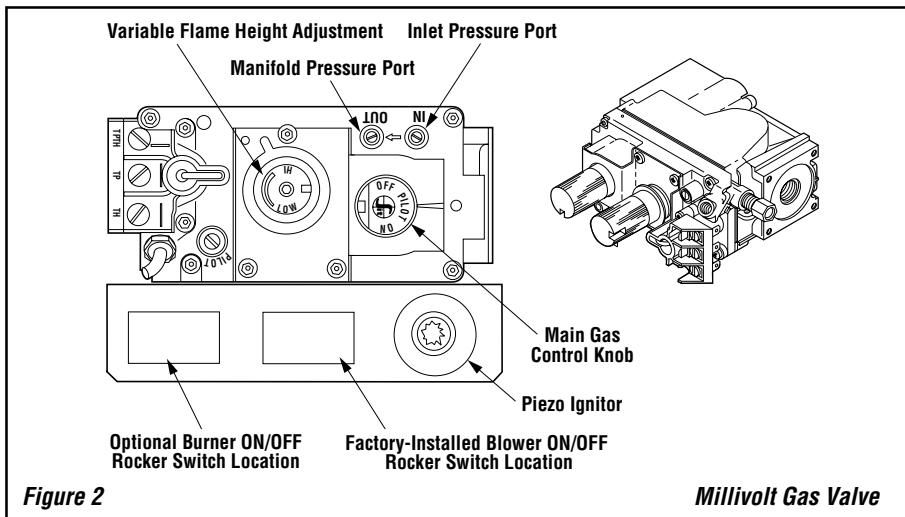

Figure 2
Appliance operation may be controlled by the following means: an optional unit-mounted ON/OFF control switch (Millivolt appliances only), an optional wall-mounted ON/OFF control switch or an optional remote control. The unit-mounted ON/OFF control switch may be mounted in the bracket below the gas valve (see Figure 2 on page 4).
Millivolt appliances are fitted with the gas control valve shown in Figure 2 on page 4.
Operation of millivolt and electronic gas control systems are different. Before lighting and operating your appliance determine if you have a millivolt or electronic appliance. Refer to Figure 1 for access to the gas control valve. Millivolt appliances will be fitted with the gas control valve shown in Figure 2 on page 4.
1. All Millivolt appliances are equipped with a variable gas control valve. Flame height for these models may be adjusted through a range between fixed low and high settings while the appliance is in operation. Adjust the flame height as desired after lighting the appliance by rotating the variable adjustment control knob located on the front of the valve (**refer to Figure 2**).